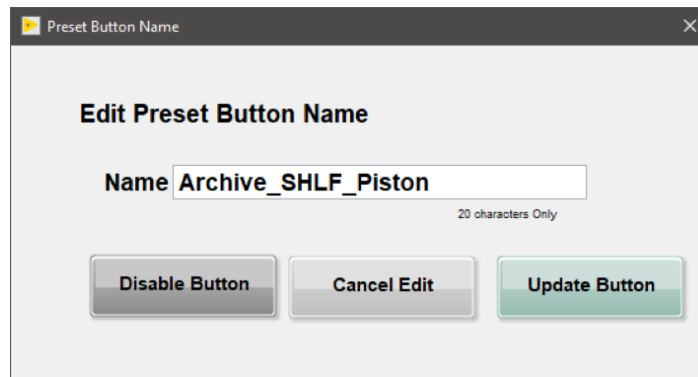

Figure 7. Edit Preset Button Name
3. Click in the white square checkbox on the right side of the screen and then click on one of the sample preset buttons. A window will open allowing the user to name the button (Figure 7). Choose **Update Button** once you have named the preset.